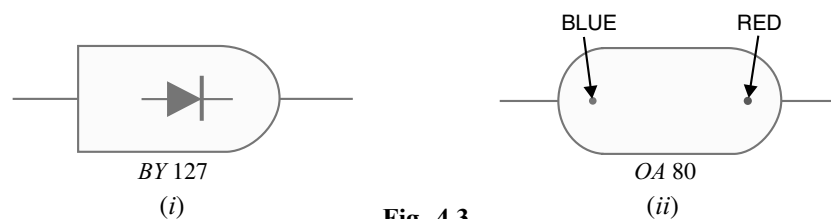

Fig. 4.3
- (i) Some manufacturers actually paint the symbol on the body of the diode *e.g.* BY127, BY114 crystal diodes manufactured by BEL [See Fig. 4.3 (i)].
(ii) Sometimes, red and blue marks are used on the body of the crystal diode. Red mark denotes arrowhead whereas blue mark indicates bar e.g. OA80 crystal diode [See Fig. 4.3 (ii)].